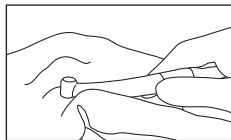

Fig. 9
- 3) Wipe the exterior of the handpiece clean using a cloth moistened with disinfectant or ethanol with a concentration of 60-90%. (Fig. 9)